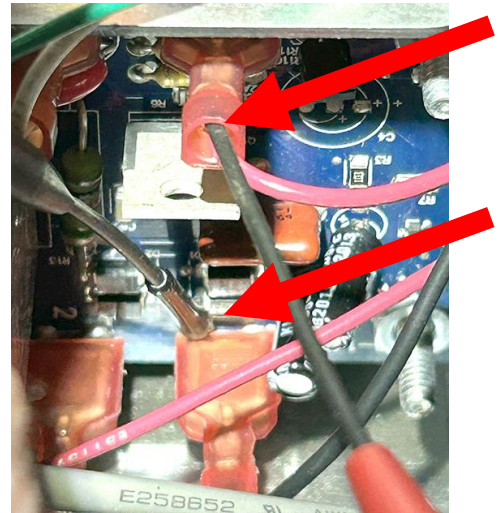

Figure 12
- i. Test across pins 1 (Red) & 12 (Black) (see Figures 12, 14 & 15). 24VDC should be present with the switch activated.